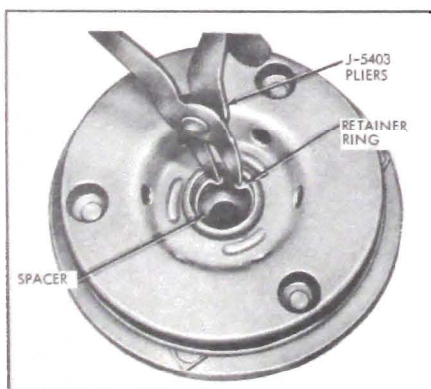

Figure 11-97—Removing Drive Plate Retainer Ring
4. Remove drive plate assembly retainer ring, using J-5403, No. 21 Truarc pliers. See Figure 11-97. Remove spacer from inside hub of drive plate.